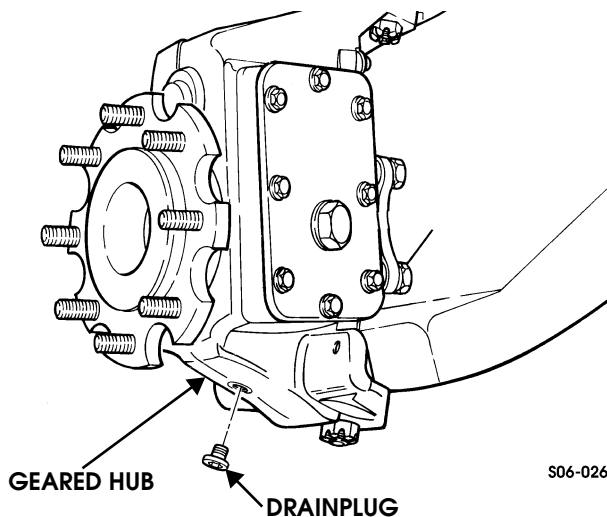

Figure 9-35: Geared Hub Drainplug Removal
2. Remove drainplug from geared hub and drain geared hub oil. Install drainplug in geared hub. Tighten drainplug to 8-13 lb-ft (11-18 N•m) (Figure 9-35).